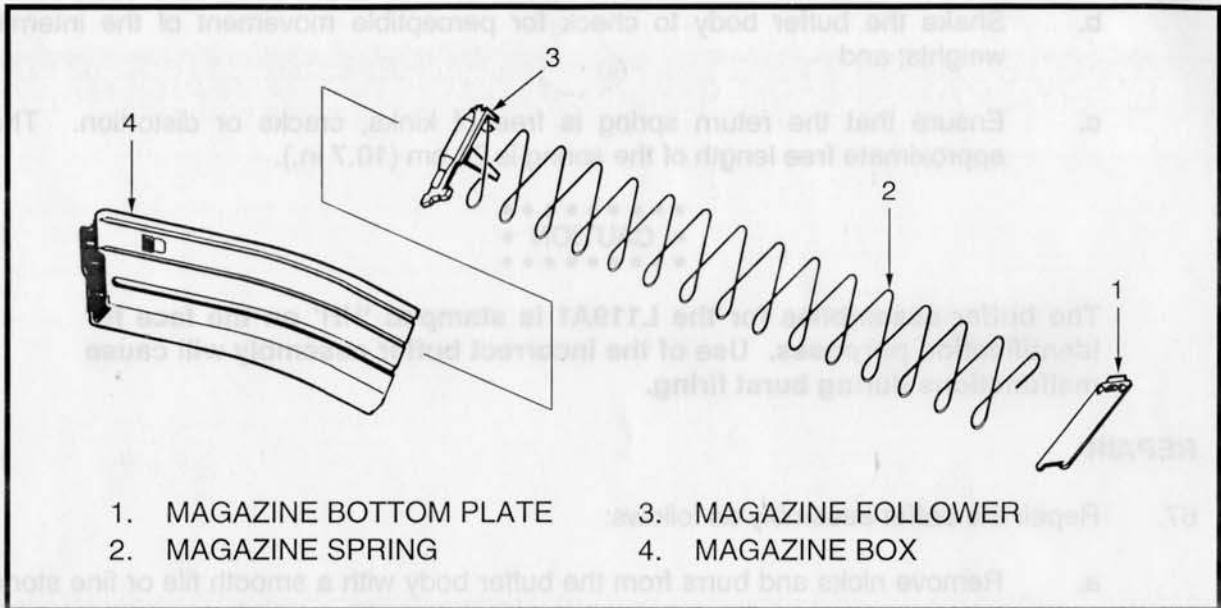

Figure 3-2-59 Disassembling the Magazine
- b. See Figure 3-2-59. Control the magazine spring (2); remove the magazine bottom plate (1), magazine spring (2) and magazine follower (3) from the magazine box (4).